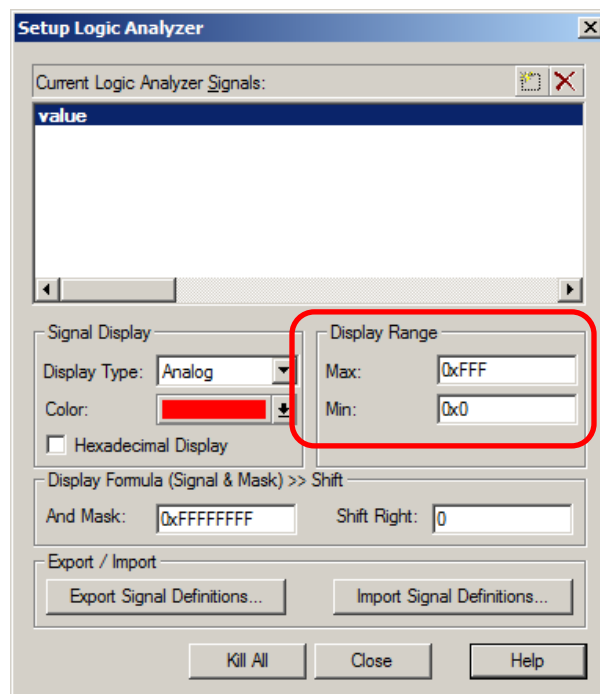

Figure 7. Logic Analyzer setup window – configure variable display range.
5. Click on the Select box and the LA Setup window appears (Figure 7). With **value** selected, set Display Range Max: to 0x15 as shown in Figure 7, and then click on Close.